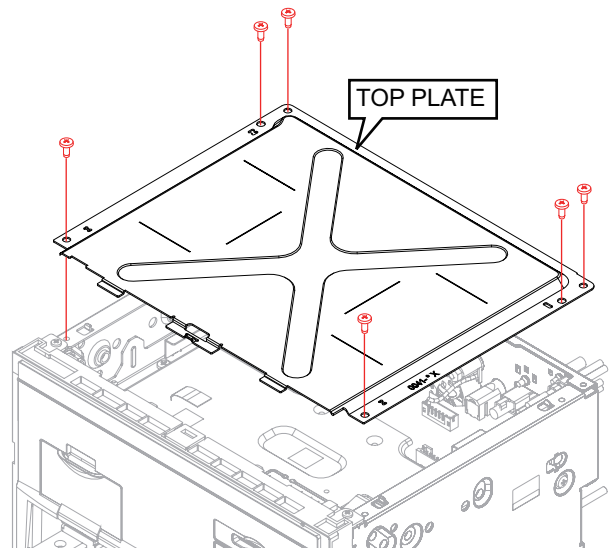

Fig.10
3.1.5 Removing the SD PWB (See Fig.10 to 14)
- (1) Remove the 6 screws, and remove the TOP PLATE. (See Fig.10)